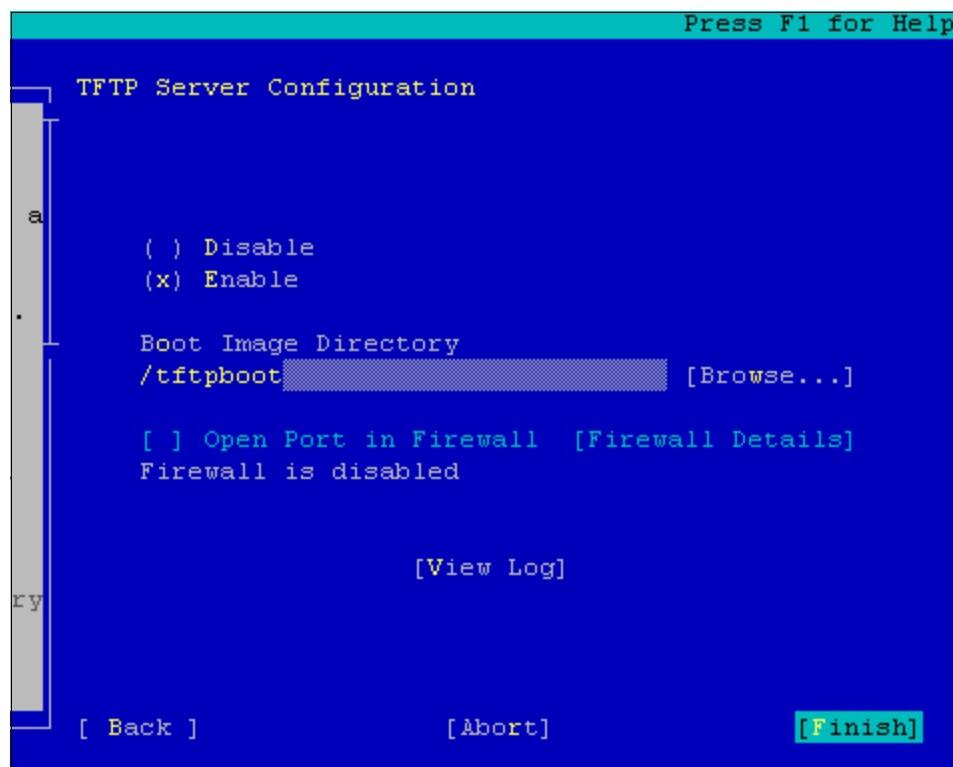

Figure C-1 Configure a TFTP server in SLES11
4. In the new window, select **Enable** and create */tftpboot* in the Boot Image Directory section as shown in Figure C-1.